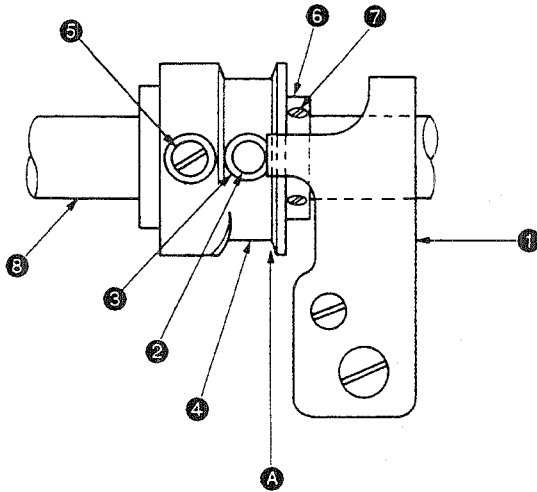

Fig. 59
- When the cam roller shaft comes in contact with the follower stopper plate (Figs. 59 and 60 on page 40), a clearance of 0.2 to 0.3 mm should be provided between the follower guide plate and the cam follower (asm.).
<p>1. Move follower guide plate ② to adjust so that a 0.2 to 0.3 mm clearance is obtained between follower guide plate ② and cam follower (asm.) ① when the cam roller shaft comes in contact with the follower stopper plate (Figures 59 and 60 on page 40). Then, fix the follower guide plate by tightening screw ③.</p> <p>(Caution) 1. Confirm, by pressing cam follower (asm.) ① in the direction of the arrow, that the cam roller shaft comes in contact with the follower stopper plate.</p>	<p>If the clearance provided between the follower guide plate and the cam follower (asm.) is larger than the specified value:</p> <ul style="list-style-type: none"> ○ A play at the moving knife in the rocker direction will be larger. <p>If the clearance provided between the follower guide plate and the cam follower (asm.) is smaller than the specified value:</p> <ul style="list-style-type: none"> ○ The follower will fail to come off the thread trimming cam causing the thread trimmer to actuate at the start of sewing. In this case, the related components will break or the sewing machine will be locked.